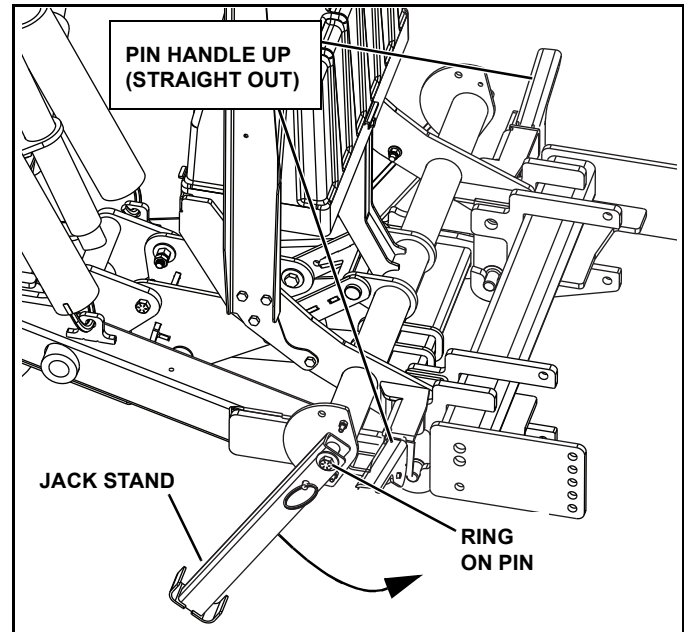

Figure 1-22
2. Pull ring on jack stand to disengage pin. Rotate jack stand towards lowered position. Release pin and continue to rotate until jack stand is locked in lower position. Ensure pin is engaged in hole by rotating jack stand back and forth (See Figure 1-22).
5. Rotate pin handles up (straight out) to unlock main pins (See Figure 1-22).